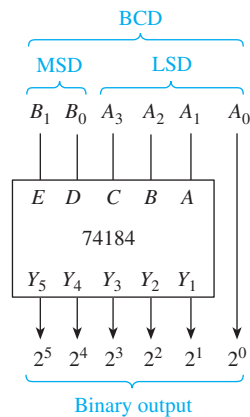

Figure 36 Six-bit BCD-to-binary converter.
Figure 36 shows the connections to form a 6-bit BCD converter. Because the LSB of the BCD input is always equal to the LSB of the binary output, the connection is made straight from input to output. The other BCD bits are connected to the A to E inputs. They have the weighting of $A = 2, B = 4, C = 8, D = 10$, and $E = 20$. Because only 2 bits are available for the MSD BCD input, the largest BCD digit in that position will be 3 (11). More useful setups, providing for the input of two or three complete BCD digits, are shown in Figure 37(a) and 37(b).